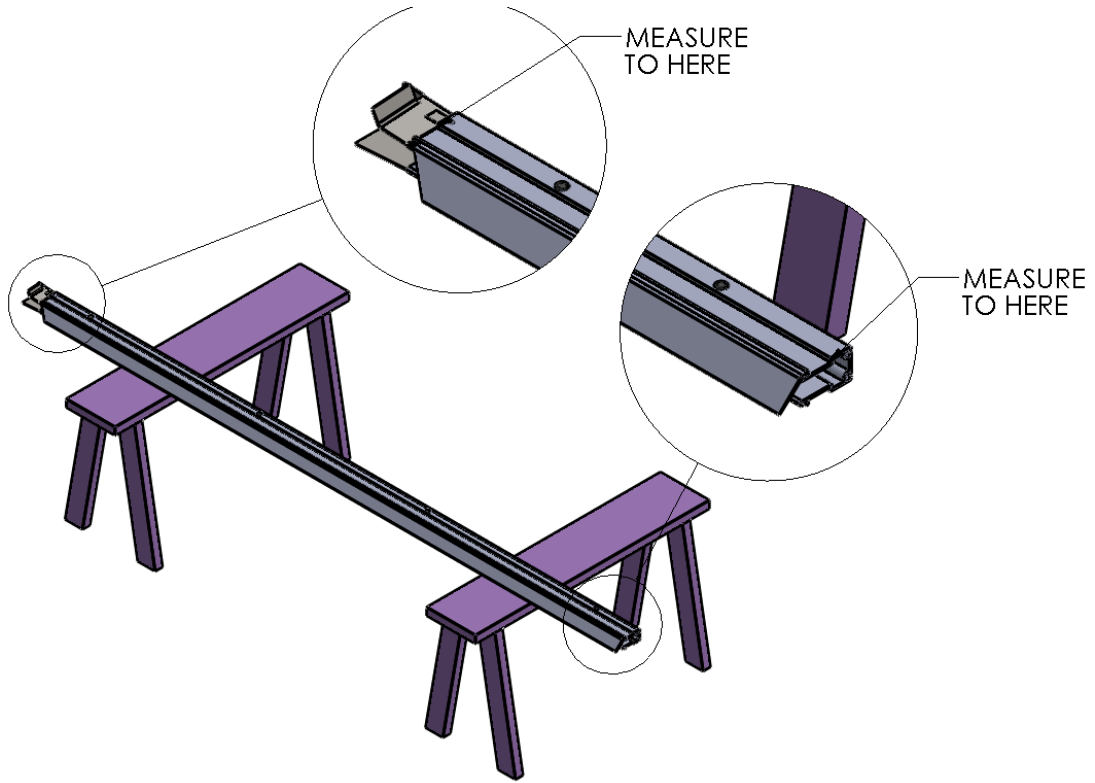
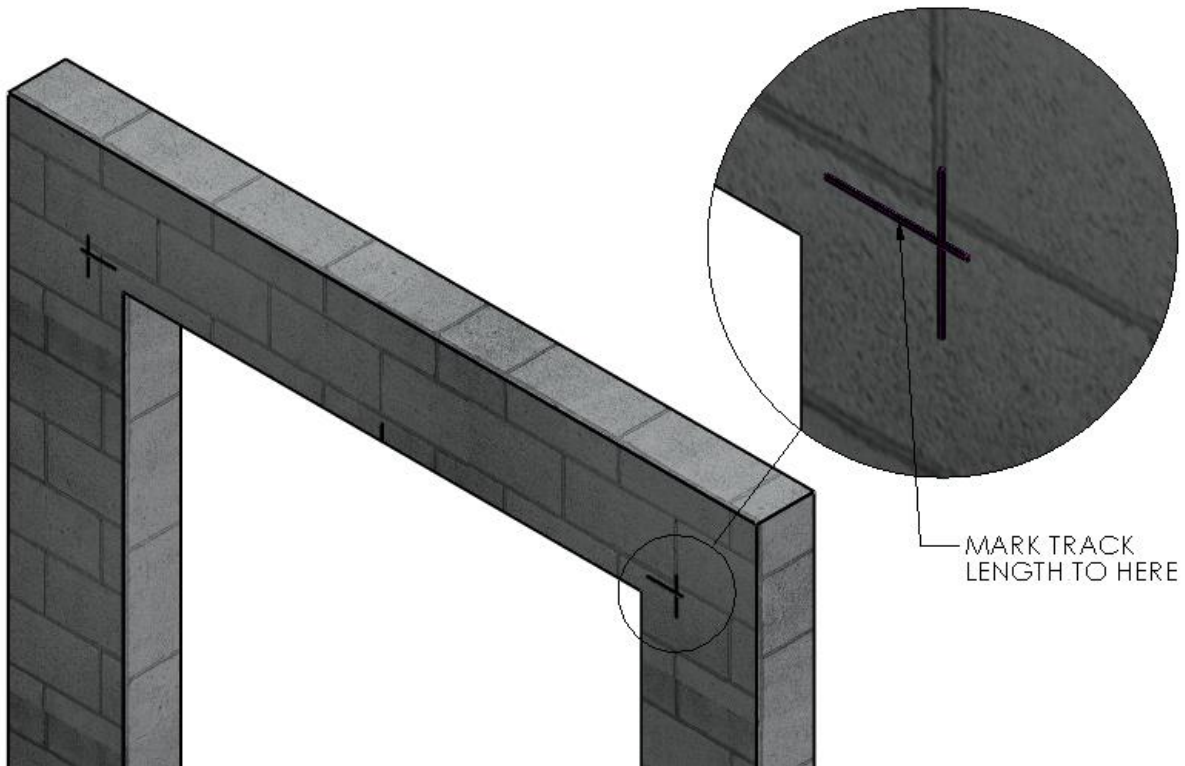

Figure 4 MEASURE TRACK HEIGHT
Figure 5 MARK TRACK HEIGHT
5. Set one of the Vertical Track Assemblies on your work surface and measure the length of the vinyl Track only. ADD 7-1/4" to this number and take note. This is the height dimension needed to mark the location of the top edge of the Header Mounting Brackets. With this number, add a horizontal line on each side of the opening that intersects the previously drawn vertical line marking the overall width of the roll assembly. (Note: This mark should be 7-1/2" above the opening height.) (Figure 4 MEASURE TRACK HEIGHT) (Figure 5 MARK TRACK HEIGHT)